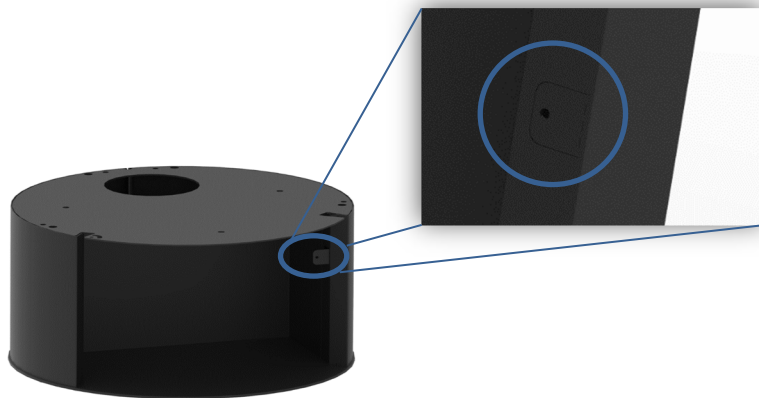

Figure 10 - Preparation of the base of the equipment, to place the door
- 1- Using a key, carefully fold the tab on the right side of the base, so that it is perpendicular to the side, as shown in Figure 10.